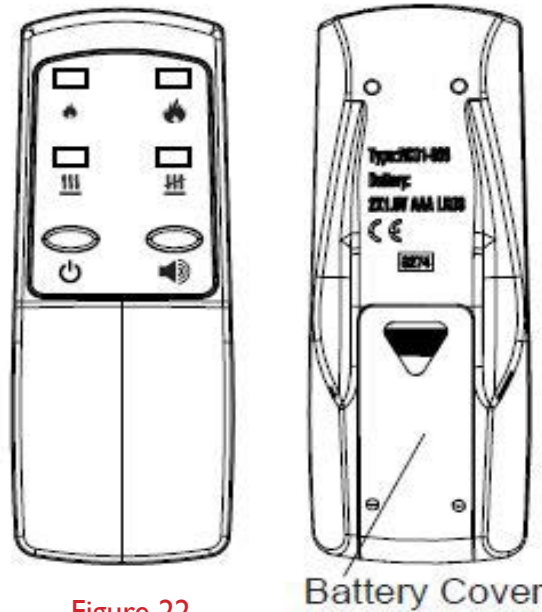

Figure 22
1. Slide battery cover open on the remote control (Figure 22).